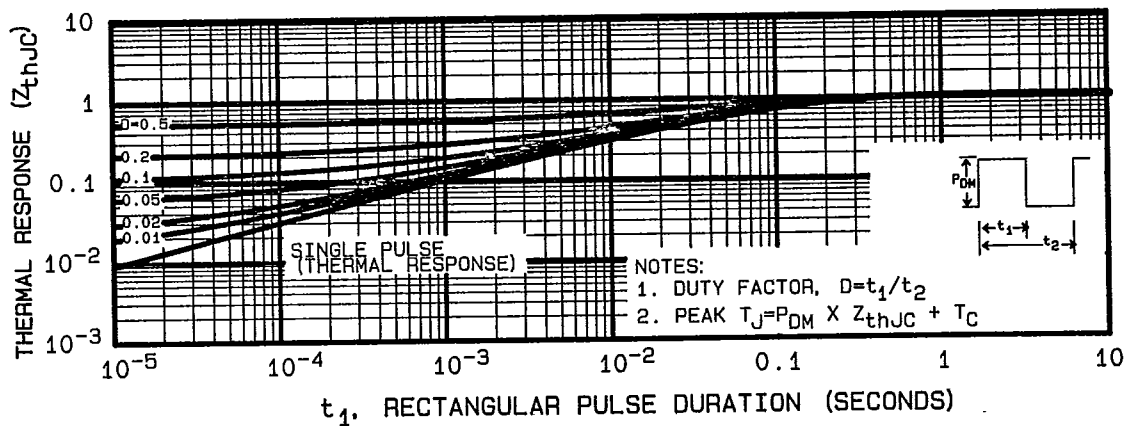

Fig. 5 — Maximum Effective Transient Thermal Impedance, Junction-to-Case Vs. Pulse Duration
① Repetitive Rating; Pulse width limited by maximum junction temperature (see figure 5) Refer to current HEXFET reliability report
② $I_{SD} \leq 14\text{A}$, $di/dt \leq 150\text{A}/\mu\text{s}$, $V_{DD} \leq BV_{DSS}$, $T_J \leq 150^\circ\text{C}$ Suggested $R_G = 9.1\Omega$
⑤ $K/W = ^\circ\text{C}/W$